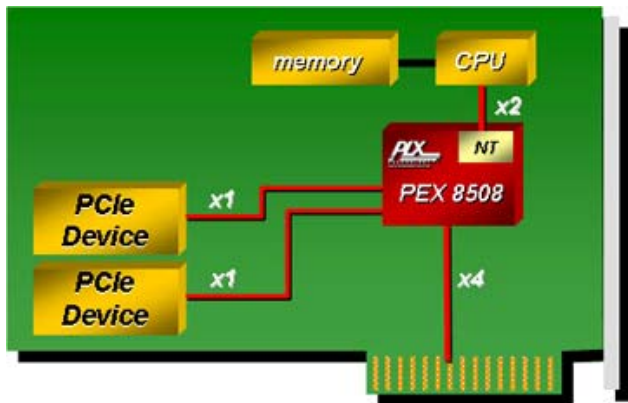

**Figure 3. Aggregation Adapter Card**
The PEX 8508 can be used to create an **adapter card** that **aggregates** the PCI Express devices into a single port that can be plugged into a **backplane** or a **motherboard**. Figure 3 shows the PEX 8508 in this application.
The adapter card in Figure 3 is transparent with no local processor present. Here four Gigabit Ethernet (GE) ports are aggregated through the switch. Recent MAC/PHY devices for GE all well as InfiniBand, Fibre Channel, etc., have native PCI Express support for direct connections to the switch. The **non-blocking** low latency design of PEX 8508 provides full throughput with **latency under 150ns**.